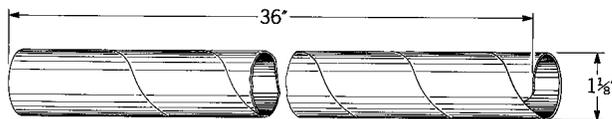

Fig. 1 - C Wire Guard
2.01 The C Wire Guard, shown in Fig. 1, is a helically-slitted plastic tube, 36 inches long and 1-1/8 inches in diameter. Diagonal pliers or a hacksaw can be used for cutting the wire guard to any desired length.